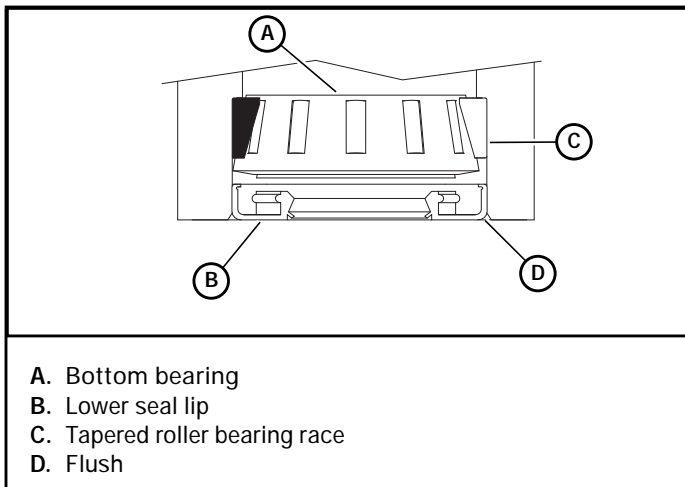

Figure 6-25
9. Install the bottom bearing and lower seal. Make sure that the lower seal lip is facing out and driven flush with the caster pocket. Figure 6-25
11. Install the caster fork assembly, taking care not to damage the lower seal lip. Figure 6-25